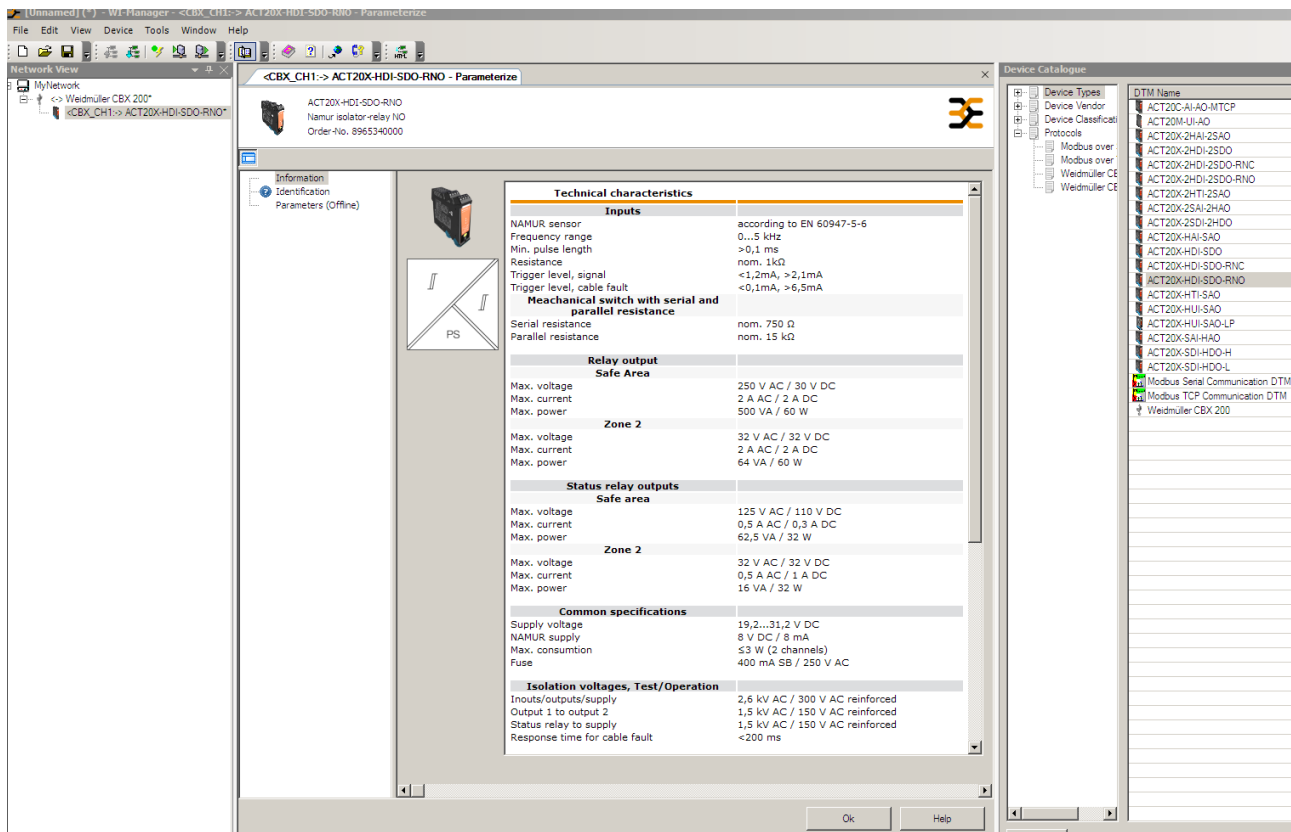
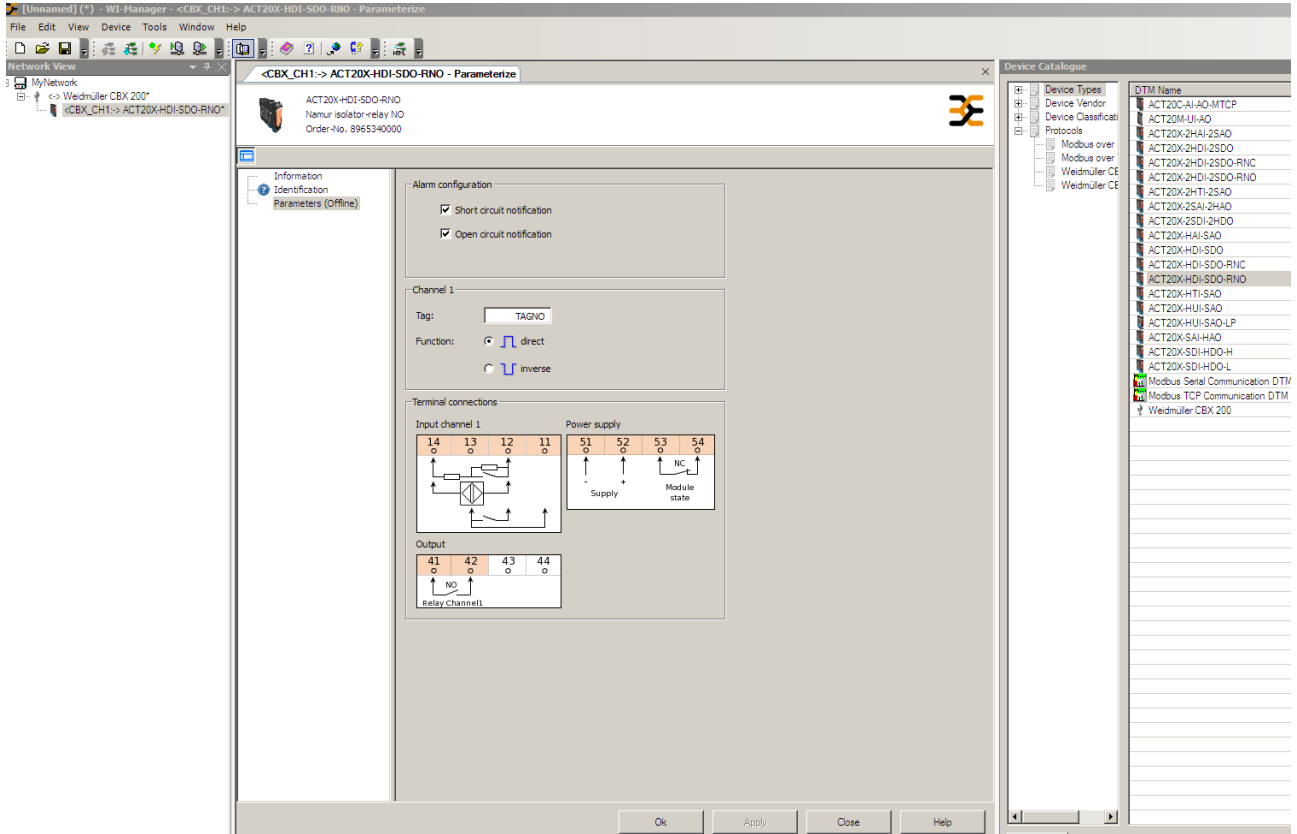

Figure 2: GUI DTM configuration (1) (example)
Figure 3: GUI DTM configuration (2) (example)
The parameterization according to the safety requirements is oriented towards the general using the product related DTM (Figure 2 "GUI DTM configuration (1) (example)" and Figure 3 "GUI DTM configuration (2) (example)" shows an example of a DTM).